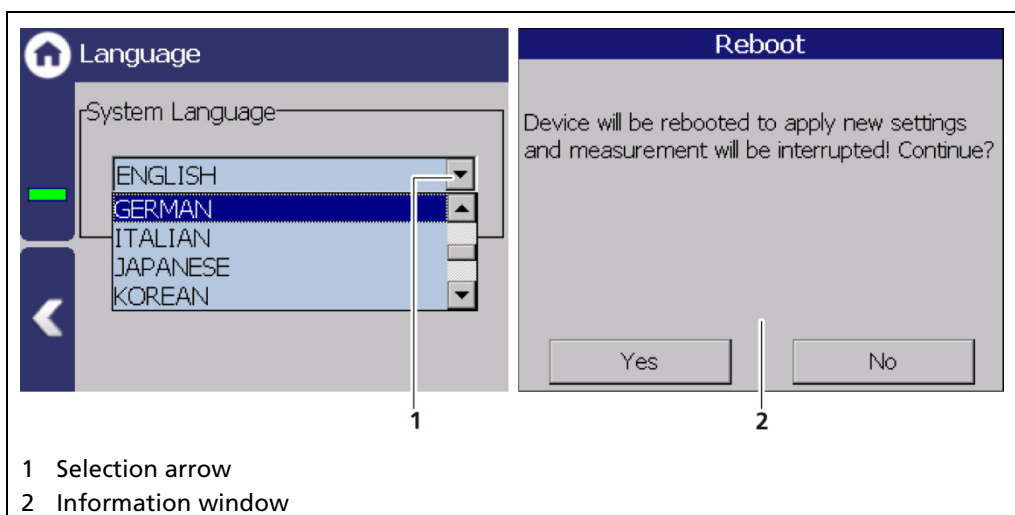

Fig. 46 Language
1. Click on the selection arrow (Fig. 46, item 1) and select a language.